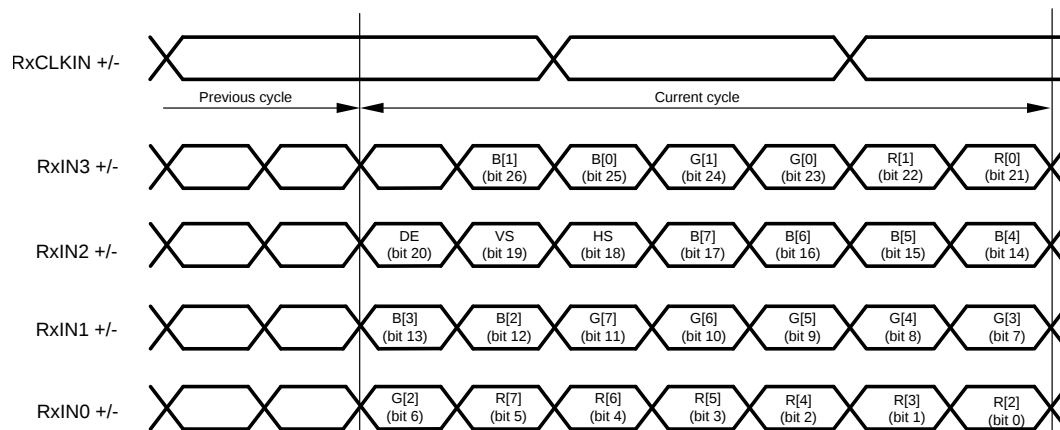

Figure 24. 8-Bit Channel Link Mapping: LSB's on RXIN3
- An alternate mapping scheme is available (LSBs on LVDS Channel 3) by configuring the MAPSEL pin to low. See Figure 24 for the alternate LVDS mapping.